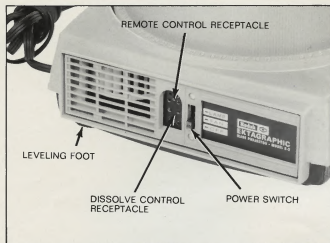

FIG. 1
## REMOTE CONTROL RECEPTACLE (Figure 1)
## LEVELING FOOT (Figure 1)
2. If a Remote Control Cord Assembly is to be used, insert the plug on the end of the cord into the remote control receptacle on the projector (see Figure 1). The plug must be correctly oriented. Make certain the orientation dot is up.